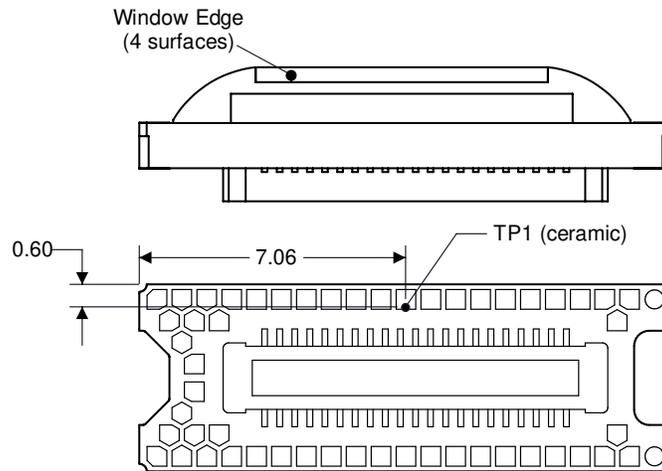

图 7-1. DMD Thermal Test Point
- $T_{\text{CERAMIC}}$  = Measured ceramic temperature (°C), TP1 location in 图 7-1
- $Q_{\text{ARRAY}}$  = Total DMD power; electrical plus absorbed (calculated) (W)
- $Q_{\text{ELECTRICAL}}$  = Nominal DMD electrical power dissipation (W)